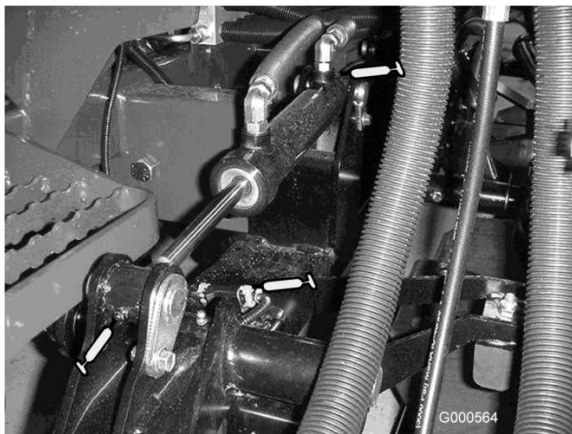

Figure 27
- Lift arm bushings (1 per deck) (Figure 27)
- Lift cylinder bushings (2 per deck) (Figure 27)